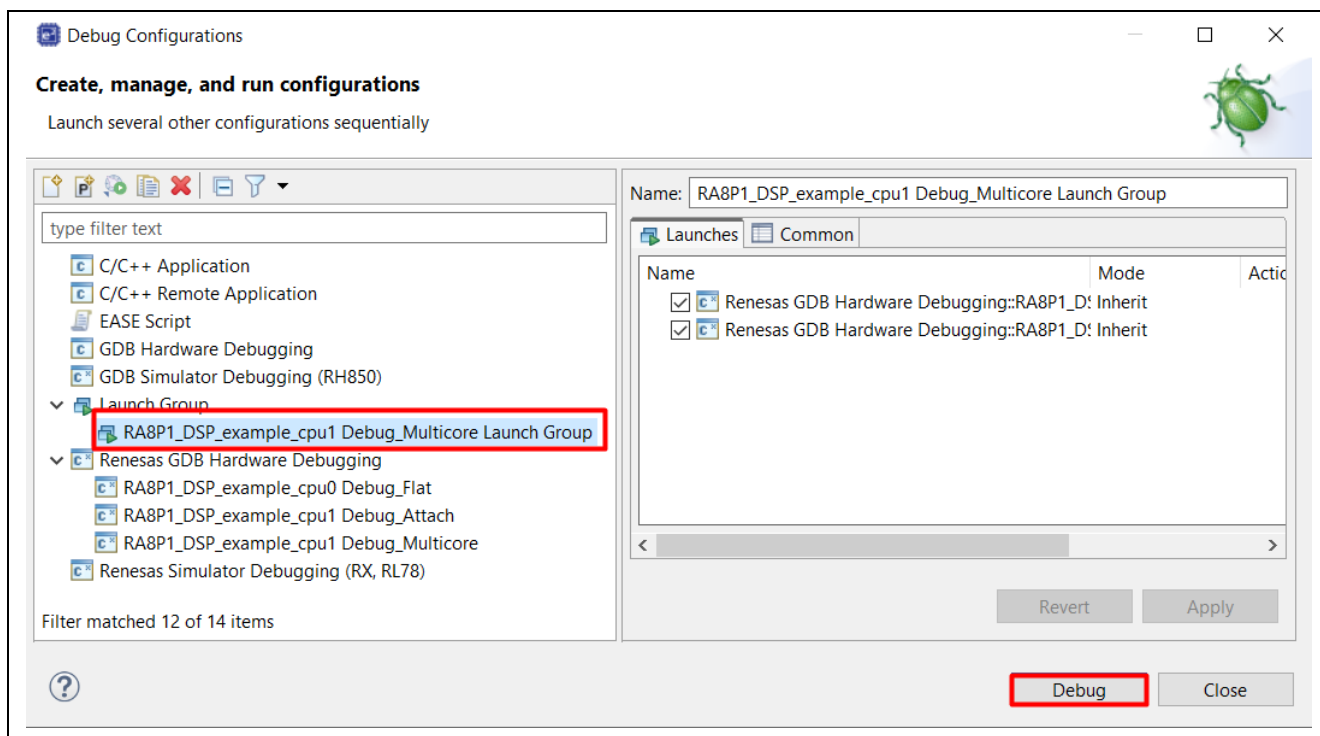

Figure 69. Example of Debug DSP Dual Core DSP Example
2. Select "RA8P1_DSP_example_cpu1 Debug_Multicore Launch Group." as shown in Figure 69.